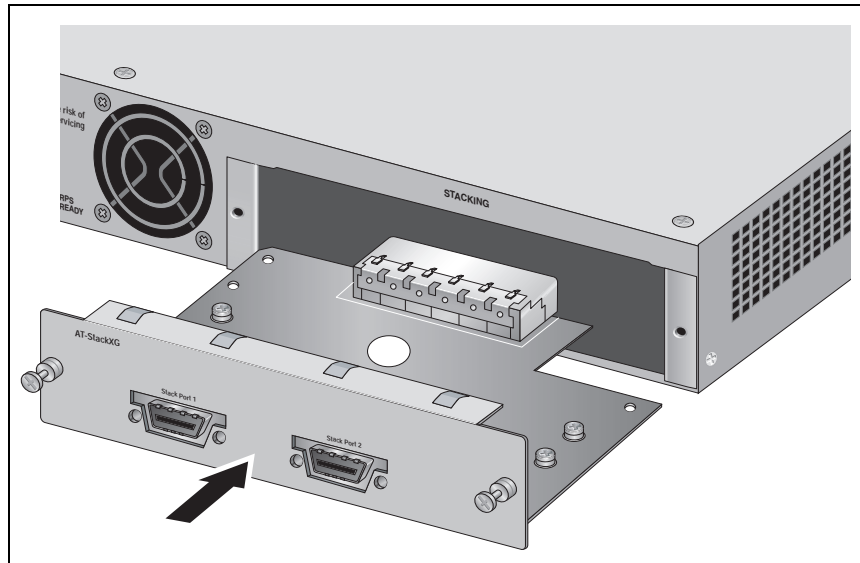
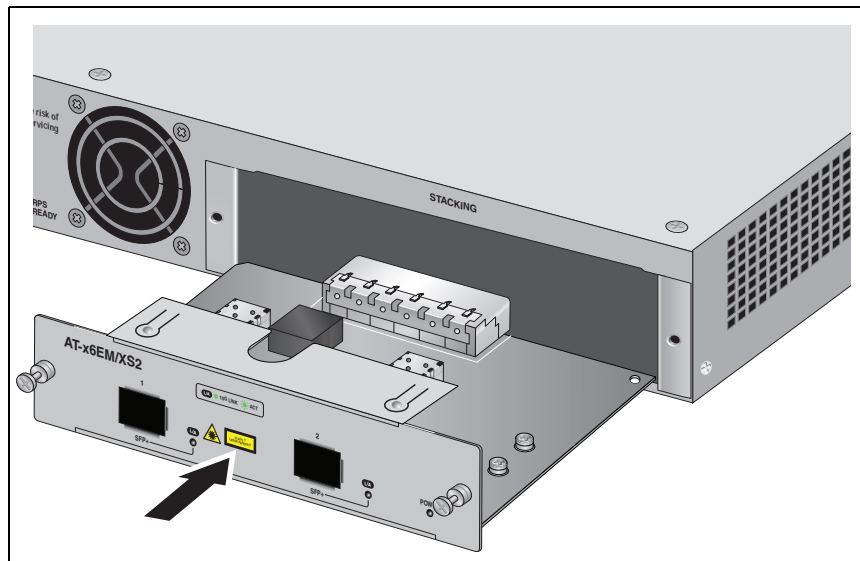

Figure 59. Installing the AT-StackXG Stacking Module
Figure 60. Installing the AT-x6EM/XS2 Stacking Module
3. Align the edges of either the AT-StackXG or AT-x6EM/XS2 stacking module with the guides in the slot and carefully slide the module into the chassis until it is flush with the rear panel of the chassis, as shown in Figure 59 on page 91 and Figure 60 on page 91. Light pressure may be needed to seat the module on the connector on the rear panel of the chassis.